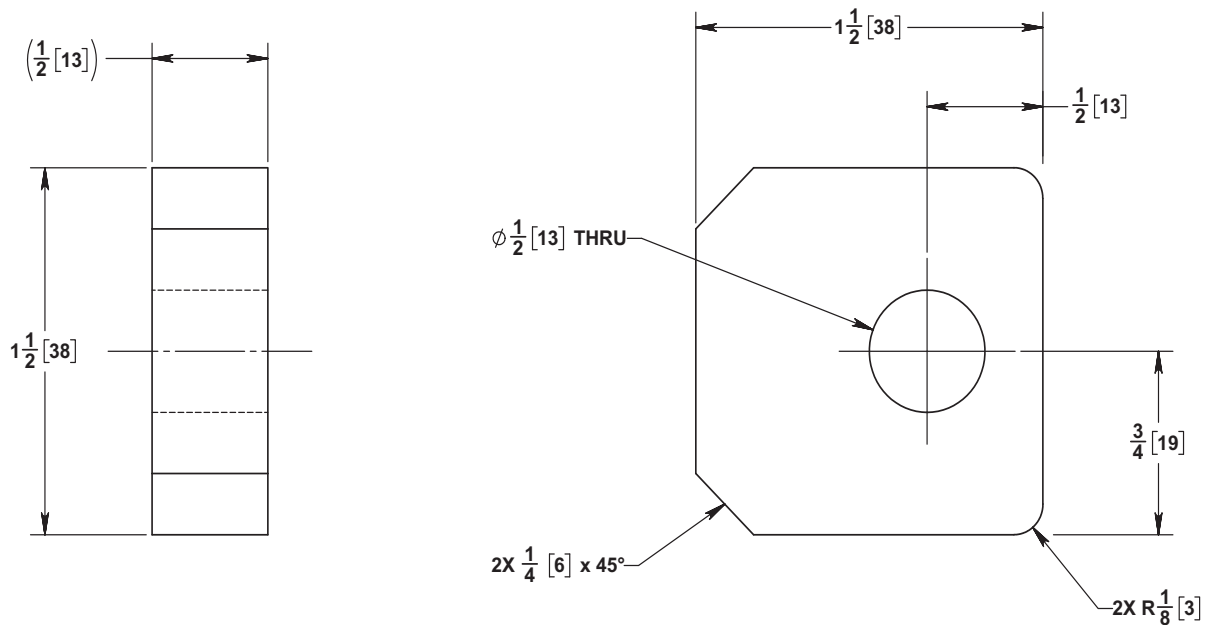

Figure 2: Item 1 (DT26999), A572-50 Weld plate size 1/2 x 1 1/2 x 1 1/2 (QTY 2)
4. Raw material cut for weld plate (item 1) inner tube weldment detail shown in Figure 2.